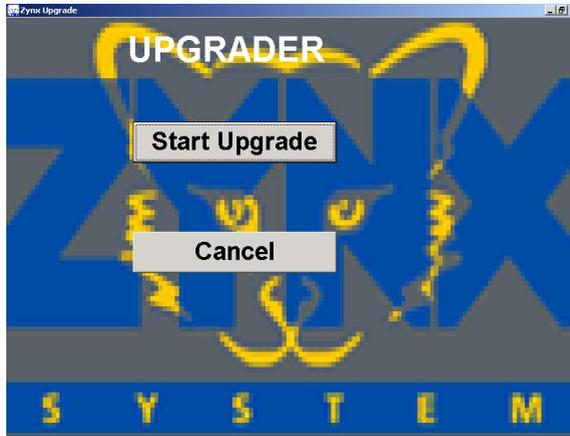

Figure 7-4. Start Upgrade Button
- To proceed with the upgrade of the X20 console, select the **Start Upgrade** button (Figure 7-4)